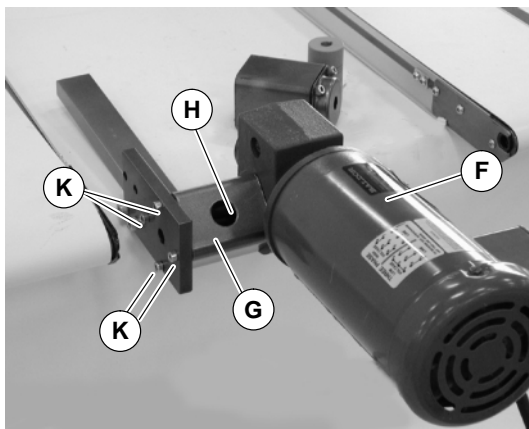

Figure 36
6. Remove four (4) screws (K of Figure 36) and remove guard tube (G) and flex coupling (H). Remove gearmotor assembly (F).